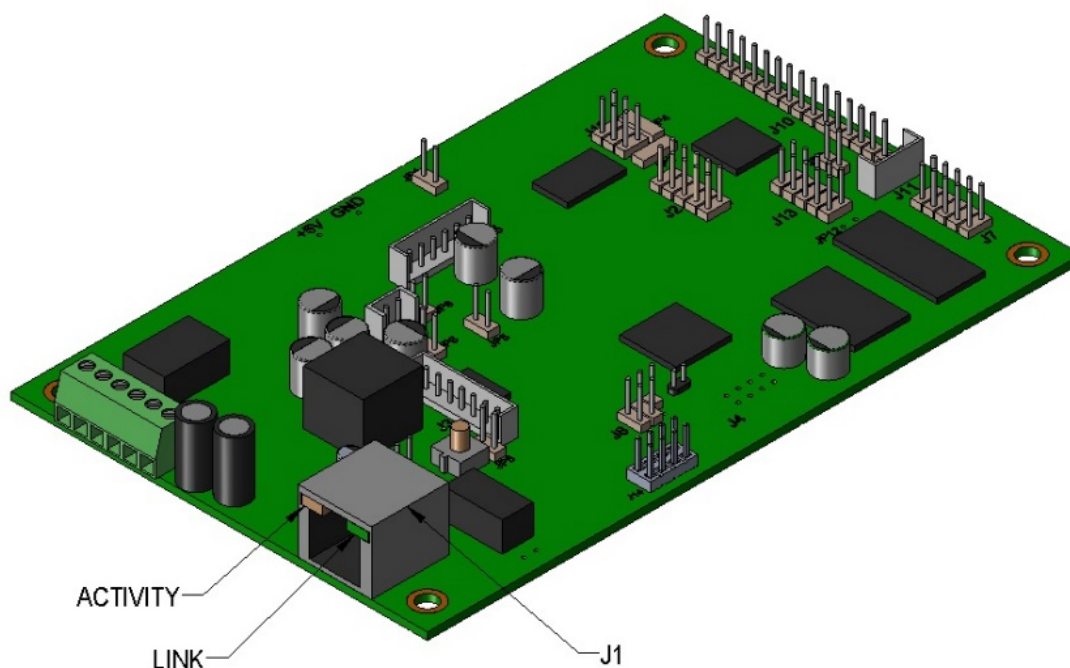

Figure 9 - Network Activity
- The square, green **Link** light above the Ethernet port indicates that the network connection has been established (see Figure 9). The Link light changes color to confirm the auto-negotiated baud rate: